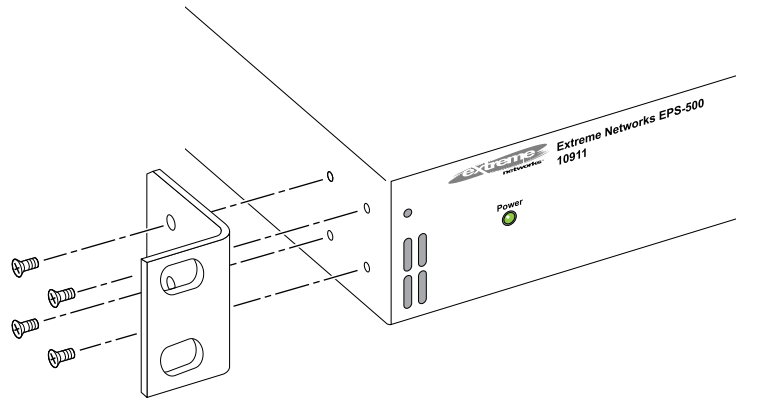

Figure 303: Attaching a Mounting Bracket
- a. Place a mounting bracket over the mounting holes on one side of the EPS-500 (see Figure 303).